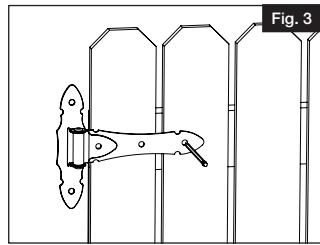

Fig. 3
- b. Mark screw locations on gate (Fig. 3).